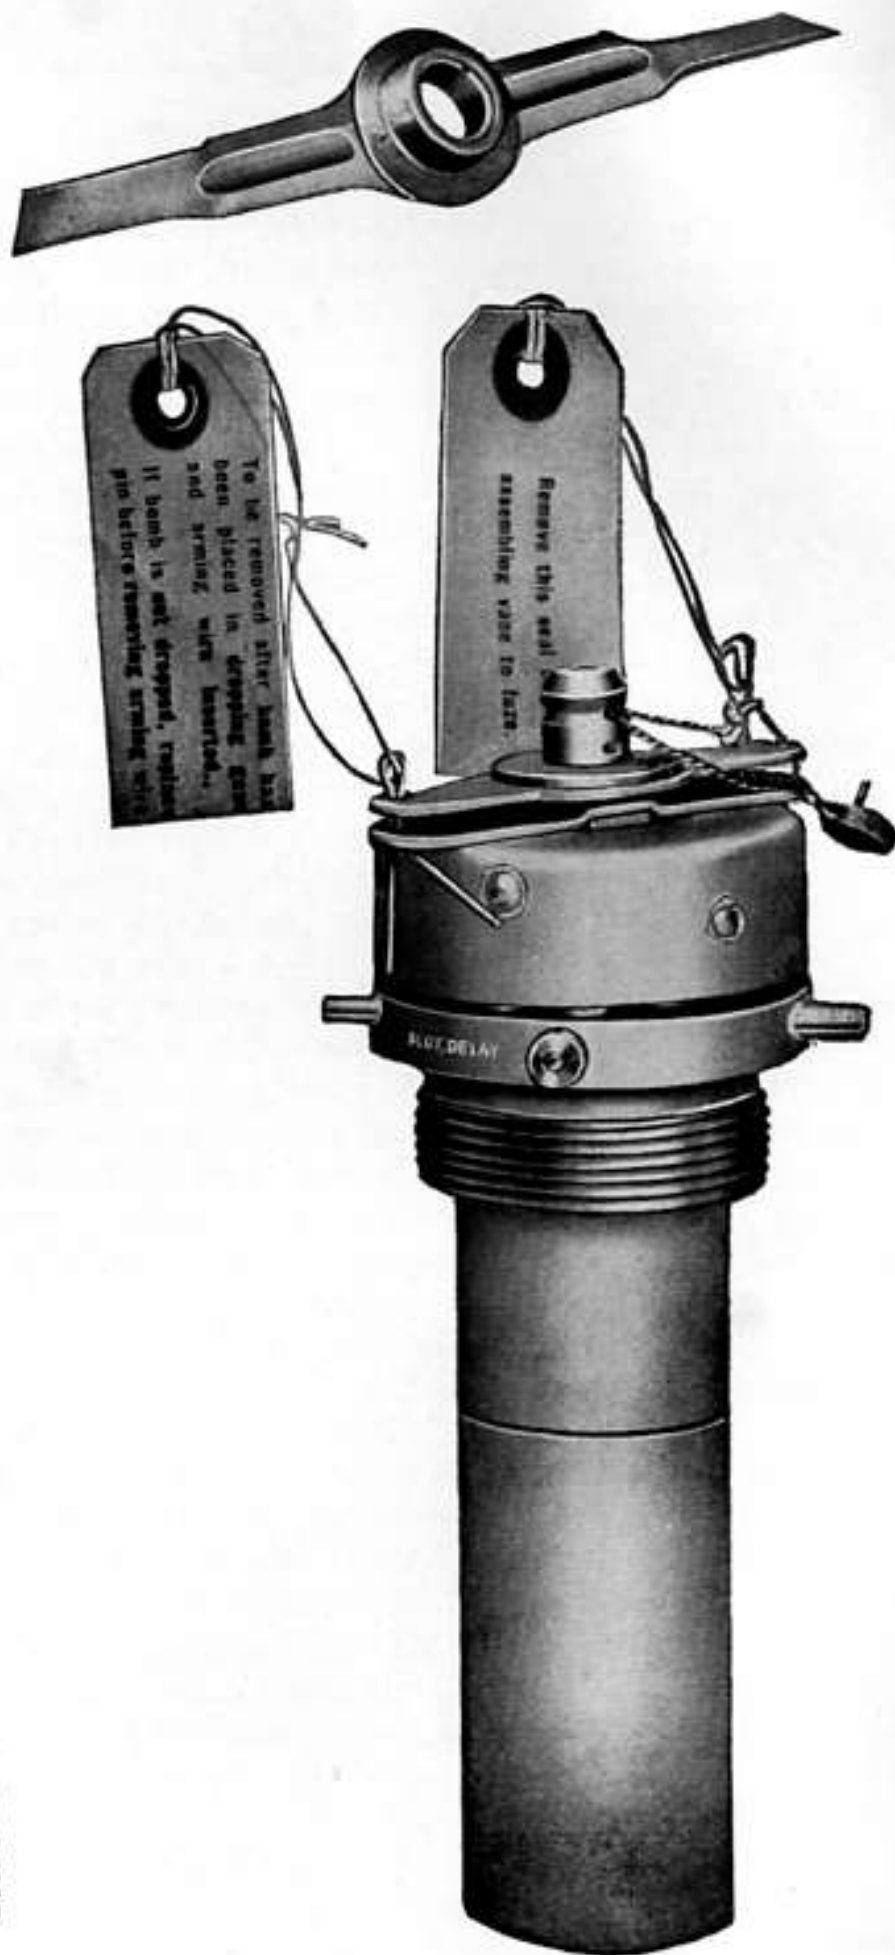

Figure 47. FUZE, bomb, AN-M103 (nose).
b. Description. FUZE, bomb, AN-M103 (nose), is cylindrical in shape. (See fig. 47.) The inner portion—which assembles inside the